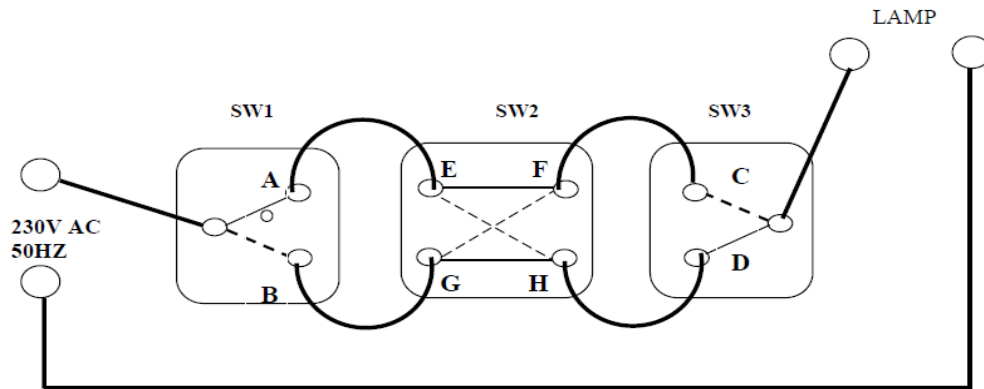

Fig 6.2
- Now repeat the above procedure for three way control by connecting as shown in figure 6.2.